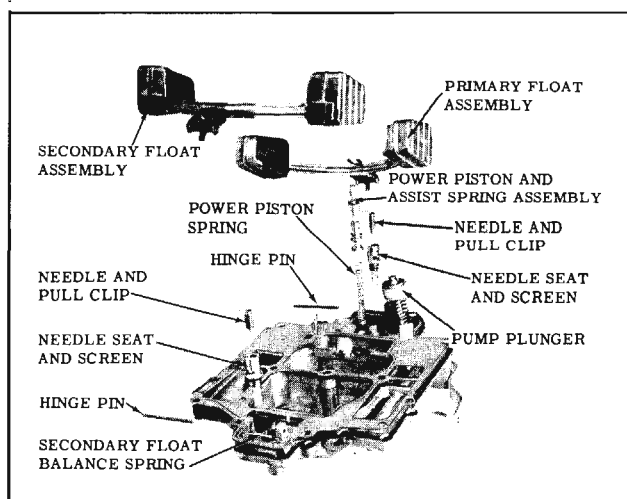

Fig. 9-8 Air Horn Assembly
10. Remove the hinge pin from the primary float assembly, then slide the float and needle away from the power piston stem. (Fig. 9-8)